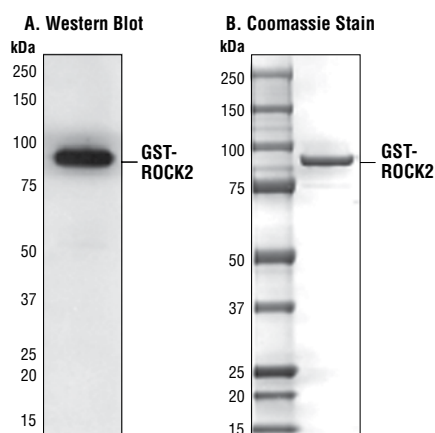

Figure 1. The purity of the GST-ROCK2 fusion protein was analyzed using SDS/PAGE followed by anti ROCK2 Western blot (A) or Coomassie stain (B).
**Background:** ROCK (Rho-associated kinase), a family of serine/threonine kinases, is an important downstream target of GTPase Rho and plays an important role in Rho-mediated signaling pathway. Two isoforms of ROCK have been identified (ROCK1 and ROCK2). ROCK is composed of N-terminal catalytic, coiled-coil and C-terminal PH (pleckstrin homology) domains. The C-terminus of ROCK negatively regulates its kinase activity (1,2). Caspase-3-induced cleavage of ROCK1 and direct cleavage of ROCK2 by granzyme B (grB) activates ROCK and leads to phosphorylation of myosin light chain and inhibition of myosin phosphatase (3). This phosphorylation may account for the mechanism by which Rho regulates cytokinesis, cell motility, cell membrane blebbing during apoptosis and smooth muscle contraction (4,5,6).
**Quality Control:** The theoretical molecular weight of the GST-ROCK2 fusion protein is 92 kDa. The purified kinase was quality controlled for purity using SDS-PAGE followed by Coomassie stain [Fig.1]. ROCK2 kinase activity was determined using a radiometric assay [Fig.2]. A kinase dose dependency assay was performed to measure ROCK2 activity using HTScan™ ROCK2 Kinase Assay Kit #7508 [Fig.3].